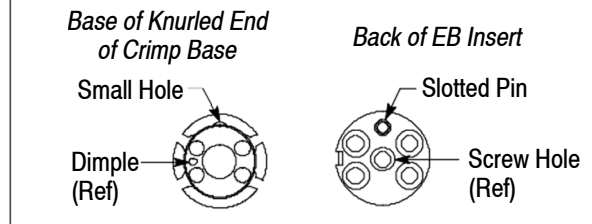

Figure 10
3. Align the end of the ferrule assembly with the appropriate channel cavity of the EB insert, and insert the ferrule assembly into the channel cavity until the O-ring is against the channel cavity. See Figure 10, Detail A. To avoid damage to the fiber, DO NOT push on the cable to install the ferrule assembly.
4. Using the ferrule insertion tool, **push on the spring** until the ferrule assembly bottoms in the channel cavity (the O-ring will be inside of the cavity, and the spring will protrude slightly from the cavity). See Figure 10, Detail A.
5. Slide the crimp base over the cables (and strength members) until it is against the springs (in the EB insert) — make sure that the small hole on the flange at the base of the knurled end of the crimp base aligns with the slotted pin at the back of the EB insert. Refer to Figure 10, Detail B.